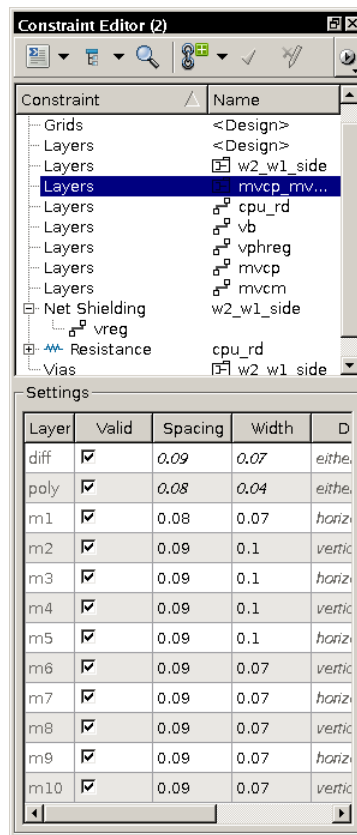

Figure 8 Constraint Editor Window
2. Similarly review the **Layers** constraint associated with the **mvcp\_mvcm\_nets** non-default rule. Observe that width values match IC Compiler values as shown in Figure 8.